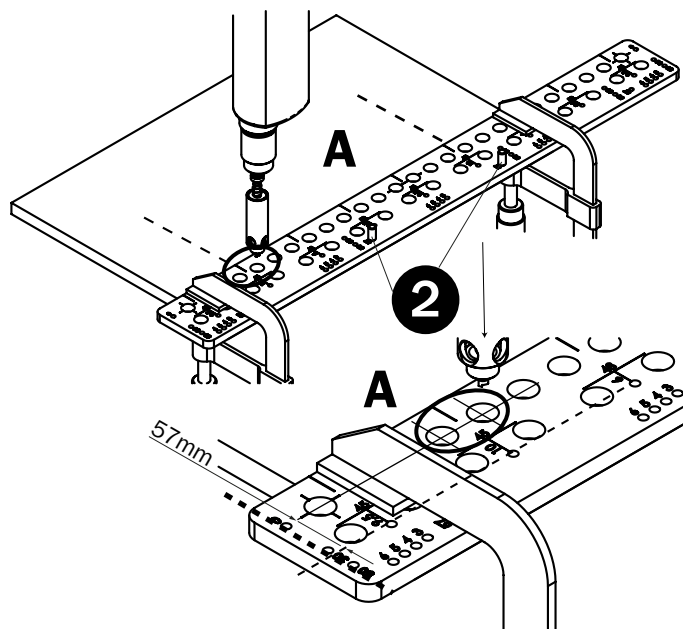

Fig. 15
Insert two metal pins (pos. 2) in 57 holes (Fig. 15). Position the **CMT900** on the work piece so that the central axis of the chosen hinge spacing on the template is aligned with the central axis on the work piece and the pins are up against the front edge of the work piece. Use the **CMT400-1** adaptor chuck with a drill bit for $\varnothing 3\text{mm}$ blind holes for wood screws or $\varnothing 5\text{mm}$ for euro screws.
Make certain that the stops are up against the front edge of the board and the hinge axis on the drilling template is at the same place as the hinge axis on the work piece. Fix the drilling template to the work piece using clamps. Set the drilling depth of the adaptor chuck according to the wood screws used. Insert the adaptor chuck with the relative drill bit in the main row of holes and drill a hole to the right of the axis and another to the left of the axis (detail Fig. 15). Make certain the drill rotates in the correct direction – these are right-hand bits.